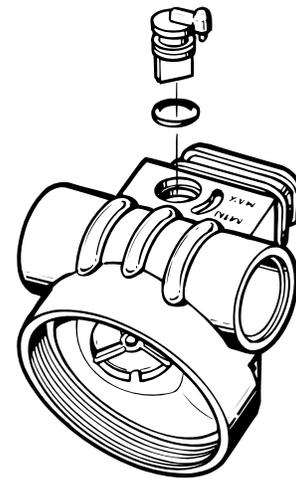

Fig. 8 - V.A.S. Alignment
1. Install the O-ring(15) onto the vane adjustment switch(16).
2. Mate the stem of the vane into its respective hole in the box bottom(14) above the outlet boss, and align the mating pin above the positioning guide (see Fig. 8). When the switch is correctly aligned, press it down and into place so that it is properly seated inside the box bottom.